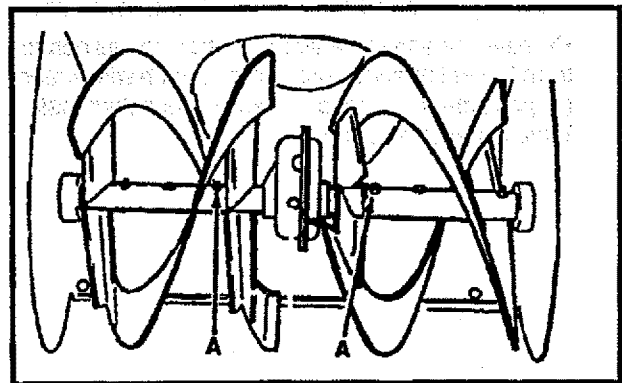

FIG. 18
- Auger Shaft - Using a hand grease gun, lubricate the auger shaft zerk fittings (See A, Fig. 18) every ten (10) operating hours. Each time a shear bolt is replaced (see To Replace Auger Shear Bolt paragraph on page 23), the auger shaft MUST be greased.